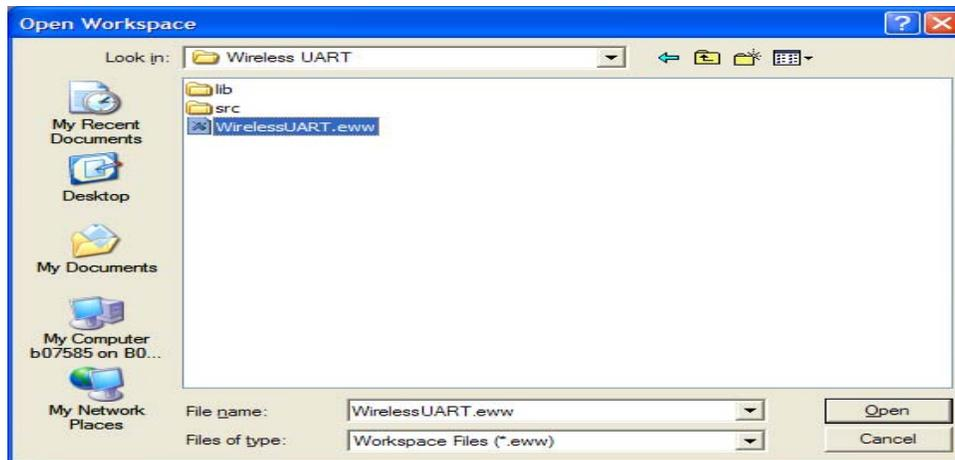

Figure 2-2. Opening Wireless UART Work Space
1. Using the IAR Embedded Workbench, open the Wireless UART work space (`wireless_uart.eww`) as shown in Figure 2-2.